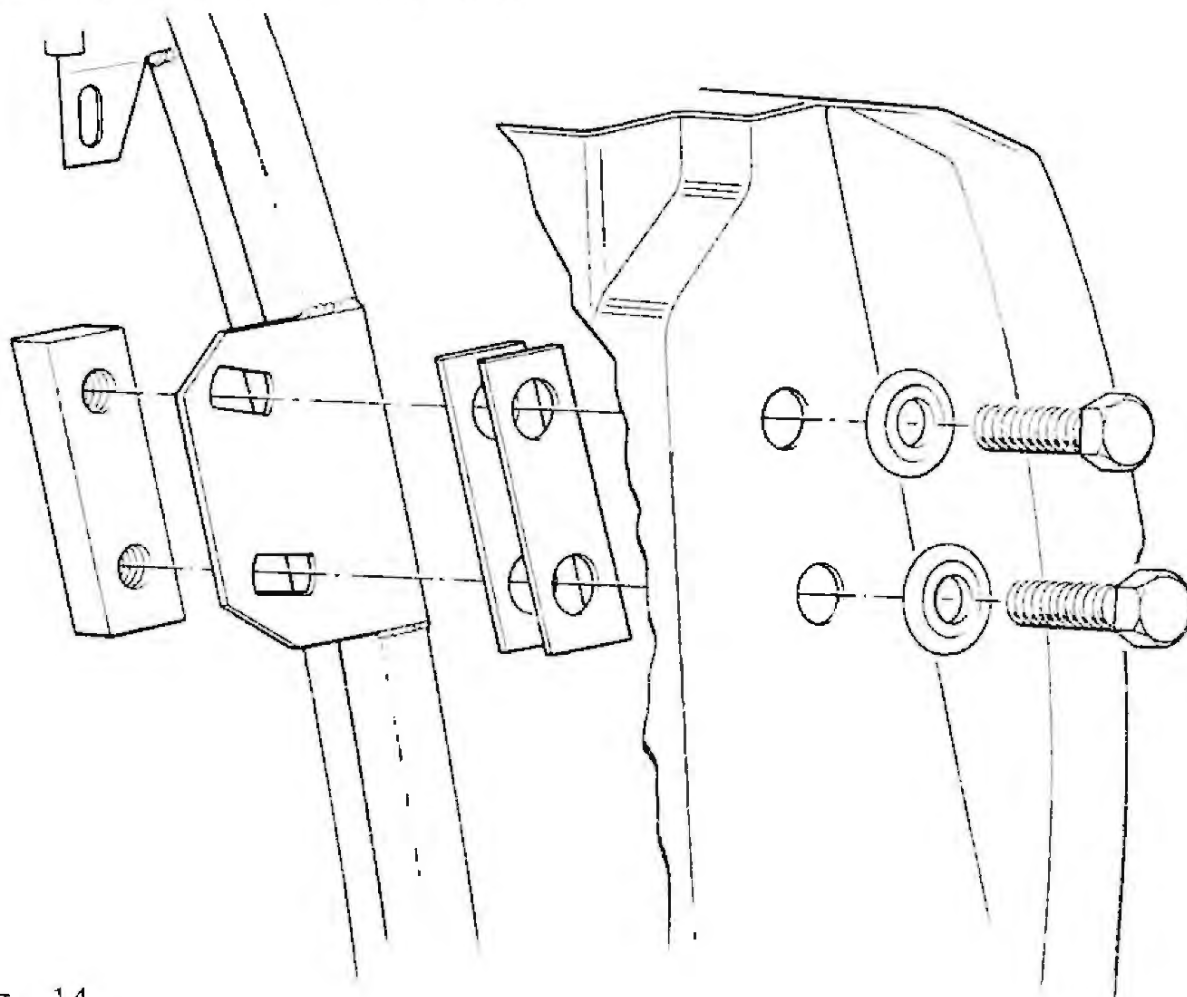

Fig. 14
15. Fit the aluminium spacers as necessary and secure the plate to the door with the bolts, washers, and tapping block as illustrated in figure 14.